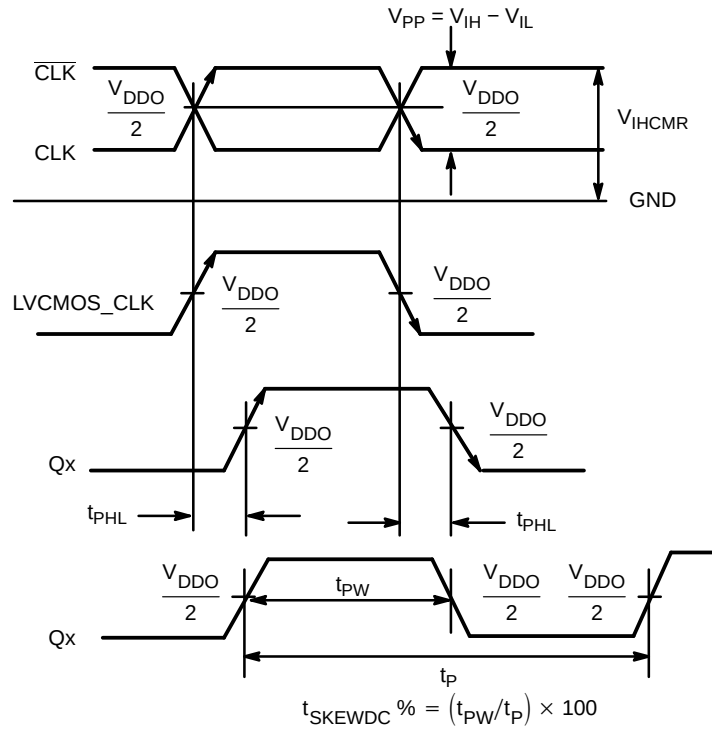

Figure 4. AC Reference Measurement
5. Outputs loaded with 50Ω to V_{TT} ($V_{DDO}/2$); see Figure 5. CLOCK input with 50% duty cycle. Measured at CLK/ $\overline{\text{CLK}}$ crosspoint to Qx $V_{DDO}/2$, CLK $V_{DDO}/2$ to Qx $V_{DDO}/2$; see Figure 4.